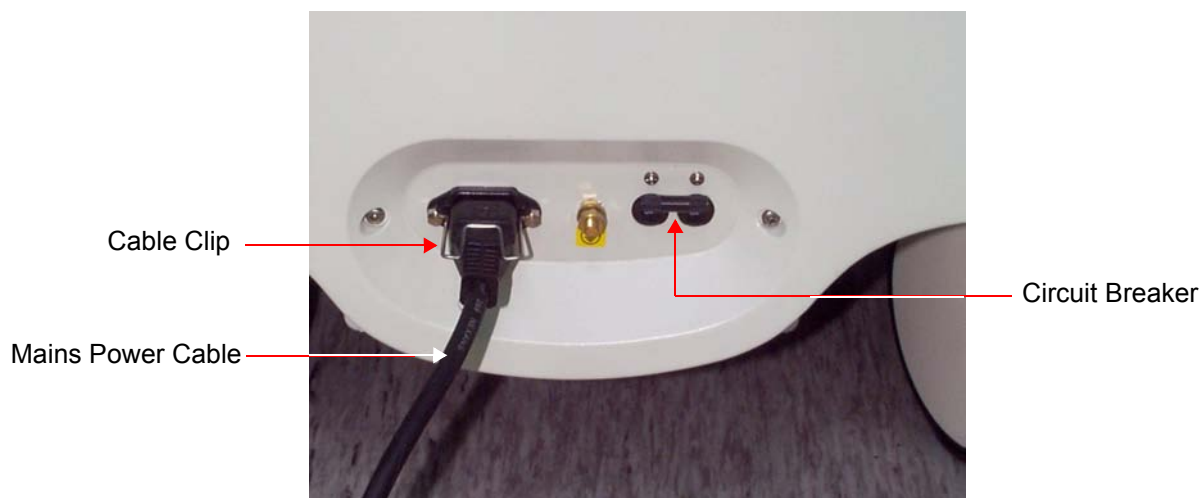

Figure 3-20 Circuit Breaker and Power Cable on Back of Scanner
- 3) Plug the power cord connector into the AC input socket, and secure it in place using the attached clip - see Figure 3-20
- 3) Unplug the mains power cable connector from the AC input socket (refer to Figure 3-20 on page 3-33).